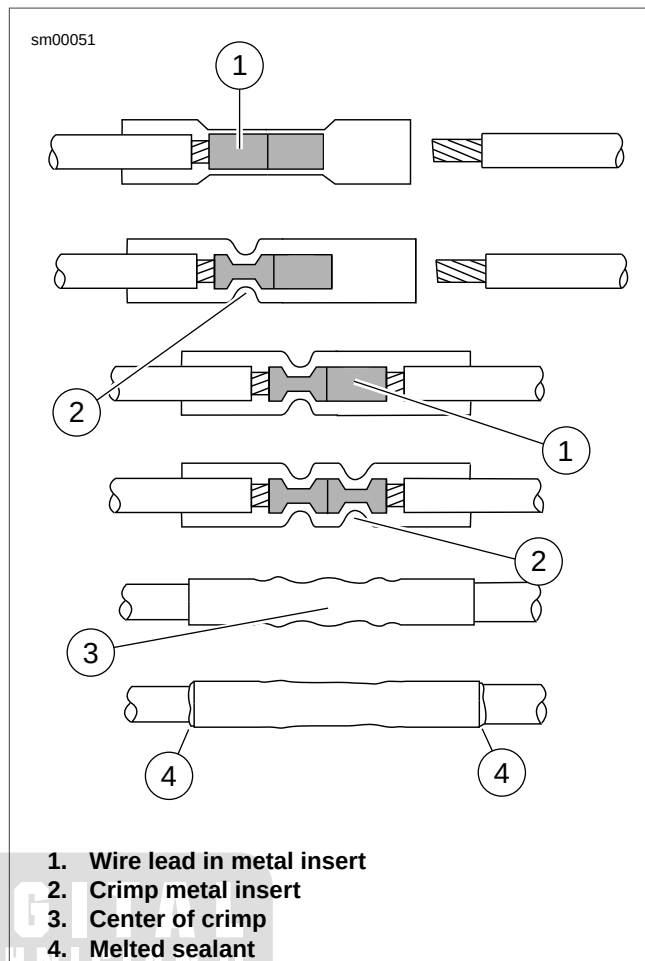

Figure A-63. Sealed Splice Connector
See Figure A-63. The connector is crimped twice - one side and then the other.
- See Figure A-63. Feed the stripped end of a wire into the connector until the wire stops inside the metal insert (1).
- Squeeze the handles tightly closed to crimp the lead in the insert (2). The tool automatically opens when the crimping is complete.
- Slide the connector to the other half of the metal insert. Insert the stripped wire lead (1) until it stops, and crimp the lead in the insert (2).
See Figure A-63. Allow the splice to cool and inspect the seal. The insulation should appear smooth and cylindrical. Melted sealant will have extruded out the ends (4) of the insulation.